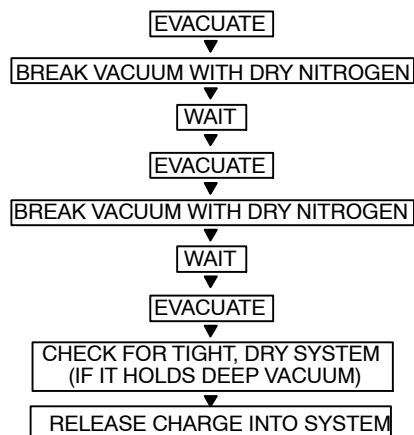

Fig. 22 – Triple Evacuation Method
Refer to Fig. 22 and proceed as follows:
5. Repeat this procedure as indicated in Fig. 22. System will then be free of any contaminants and water vapor.